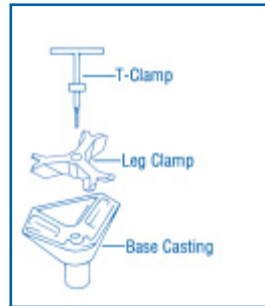

Figure 4.
- B. Place the Base T-Clamp through the hole in the Leg Clamp and turn clockwise until the T-Clamp engages the threads of the Base (see Figure 4).